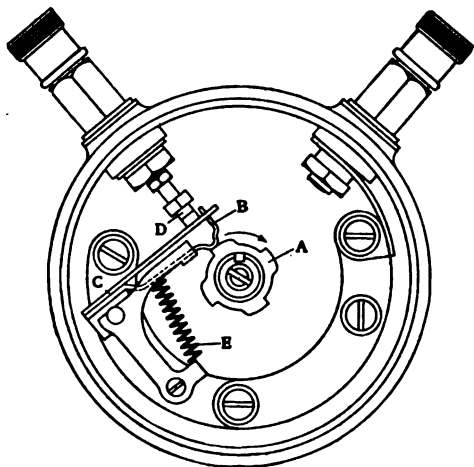

Fig. 127. Diagram of Earlier Model of Delco Interrupter
**Earlier Model Interrupter.** In an earlier model which will be found on a great many cars, the contacts are normally held open, Fig. 127. The movable contact is carried on a straight spring blade to which is attached a bent spring blade *B* held against the cam by the spring *E*. The latter also places the spring *C* under slight tension and holds the movable contact away from the stationary contact *D*.